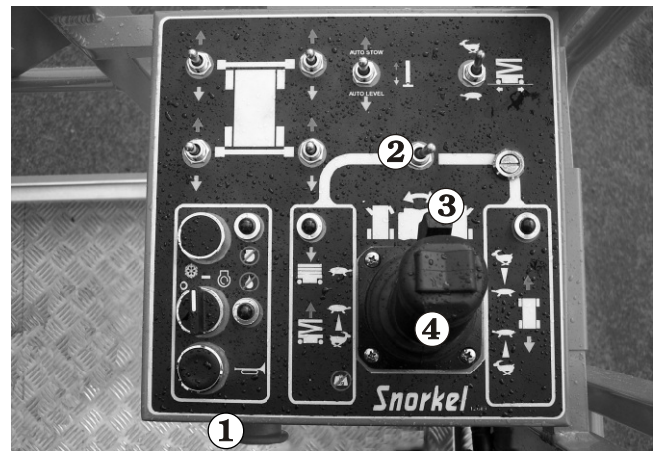

Figure 9.3
2. Set the **Selector** switch **2** (see Figure 9.3) to the platform function (left).
3. Squeeze the **Safety Control** **3** and push the **Joystick Controller** **4** (see Figure 9.3) forward. The platform should lower. If it does not lower, call for help from someone on the ground.